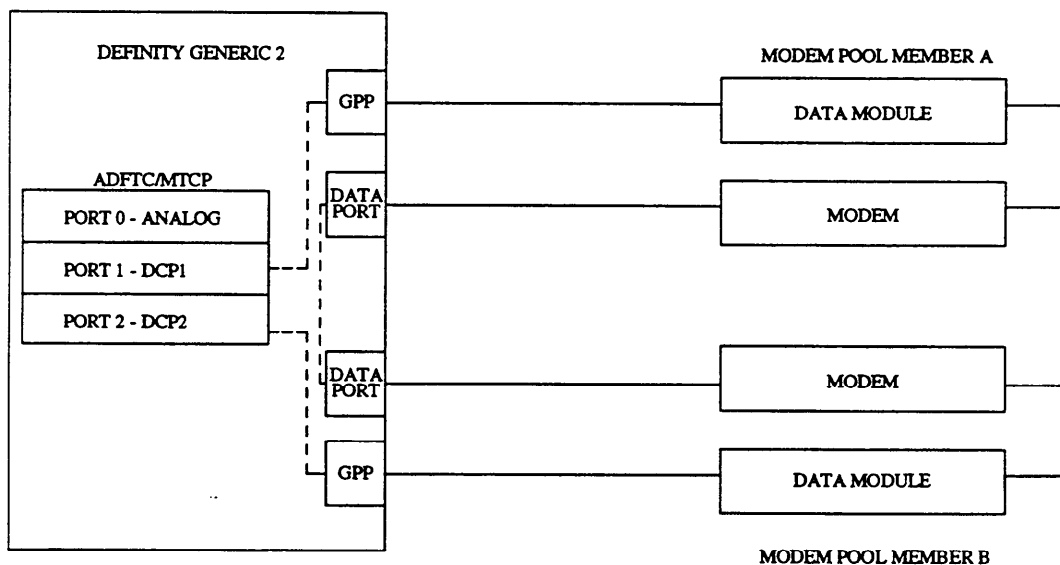

Figure 5-19. Tests 2 and 3 - Two Port Modem Pool Tests
- Two port originating normal or reverse test - test types 3 and 4 (see Figure 5-19, *Tests 2 and 3- Two Port Modem Pool Tests*).